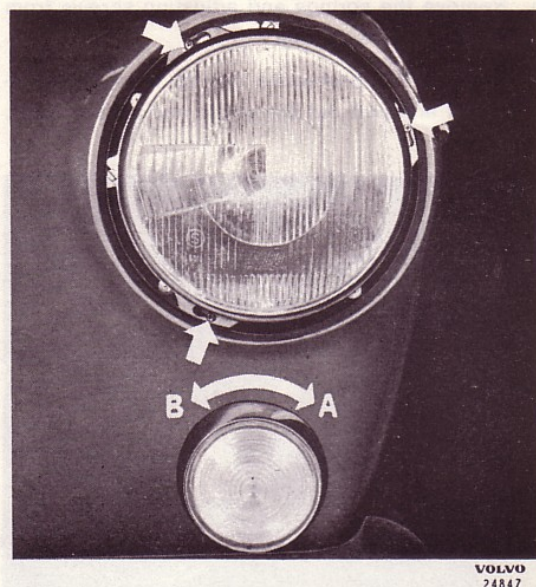
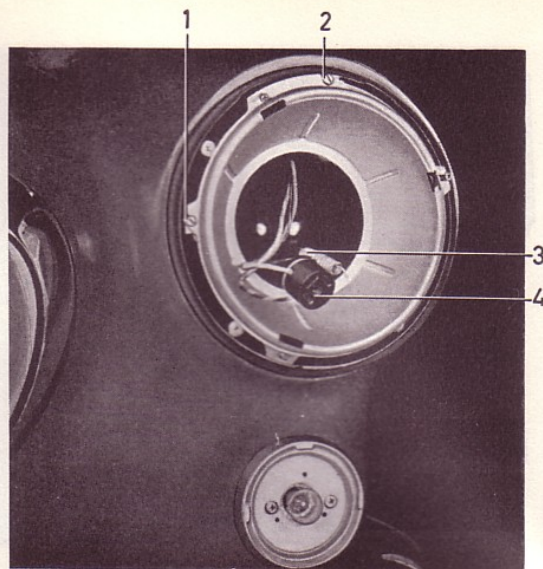

Fig. 80. Removing the headlamp insert retaining ring and flasher and parking lamp
Fig. 83. Headlamp bowl
2. Slacken the screws marked by arrows and turn the headlamp insert retaining ring to the left and lift it off, see Fig. 80.
4. Slacken the screws (1 and 2, Fig. 83) for headlamp adjustment 8–10 turns. Unhook the springs from the bowl. Lift out the bowl from the bowl. Lift out the bowl from the protective casing.
Adjusting is done by turning the two screws (1 and 2, Fig. 83). The adjustment should fulfill the requirements laid down by current provisions of law. It is carried out with the help of an approved light adjustment unit or against a wall or screen as shown in Fig. 86.
The glass is removed by turning it to the left, see Fig. 80. The lamp is removed by unscrewing the two screws next to the bulb, see Fig. 83.